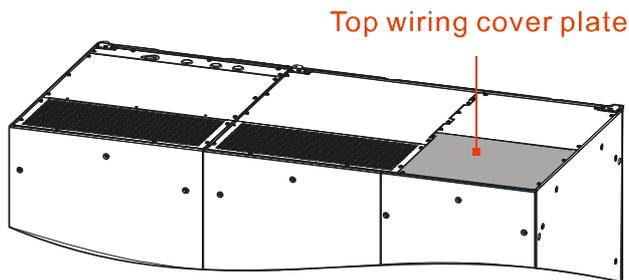

Figure3-36 Top wiring cover plate position of BM33800
Step 2 Unscrew the fasten bolts of top wiring cover plate (as shown in Figure3-36) by screwdriver and take them down.